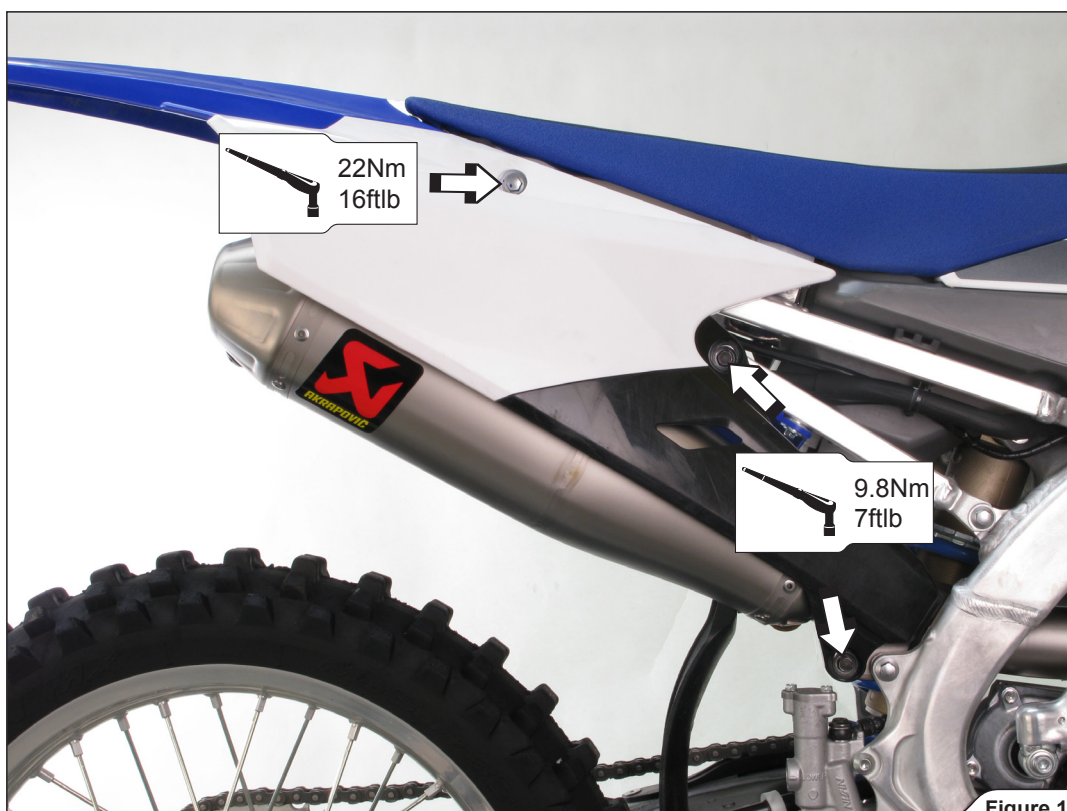

Figure 18
10. Reattach the right side panel and tighten the marked bolts to a specified torques (Figure 18).